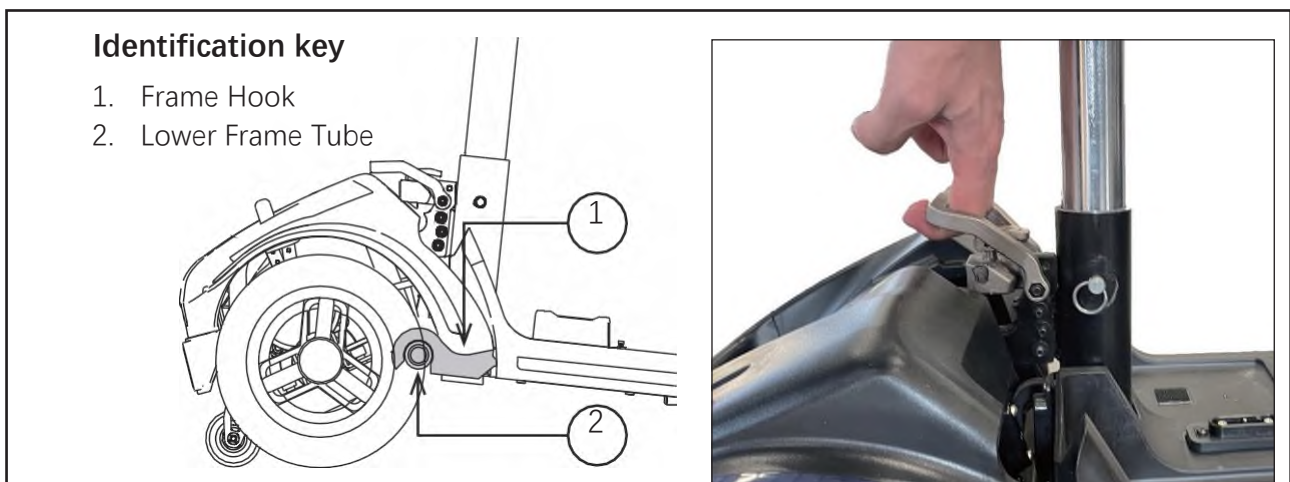

Figure 8. Frame Release Lever
ATTENTION – Before attempting assembly, tilt the rear half of the Travel Scooter slightly back on the anti-tip wheels as shown in figure 8.
3. Slowly separate the two parts of the Travel Scooter. See figure 8.
1. Use the front frame release lever to lift the front frame as you align the framehooks of the front frame with the rear frame tube of the rear frame. See figure 8.
2. Once the frame hooks are over the rear frame tube, lower the front frame and pivot the rear frame simultaneously. This will engage the frame lock-up automatically. See figure 8.